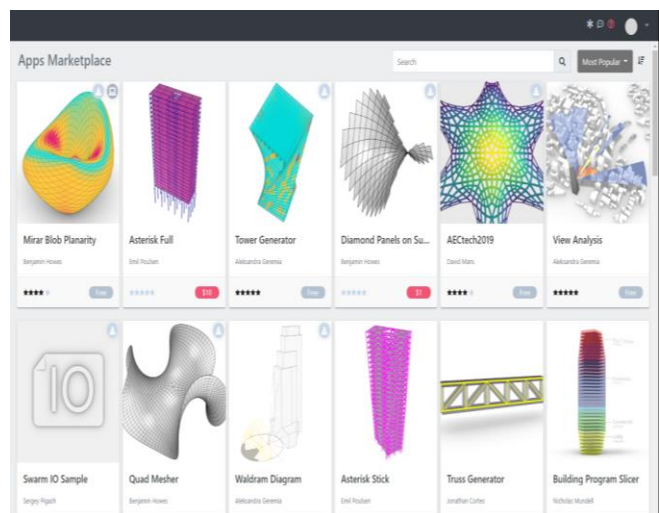

Figure 8: SWARM is Grasshopper App Marketplace
- **SWARM** was spun off as well via **TTWiiN**, a user-friendly interface for *Grasshopper* design optimization. Swarm is really an app store for the design community. It connects designers who need easy to use parametric tools with the super users who are building them. [Figure 8]